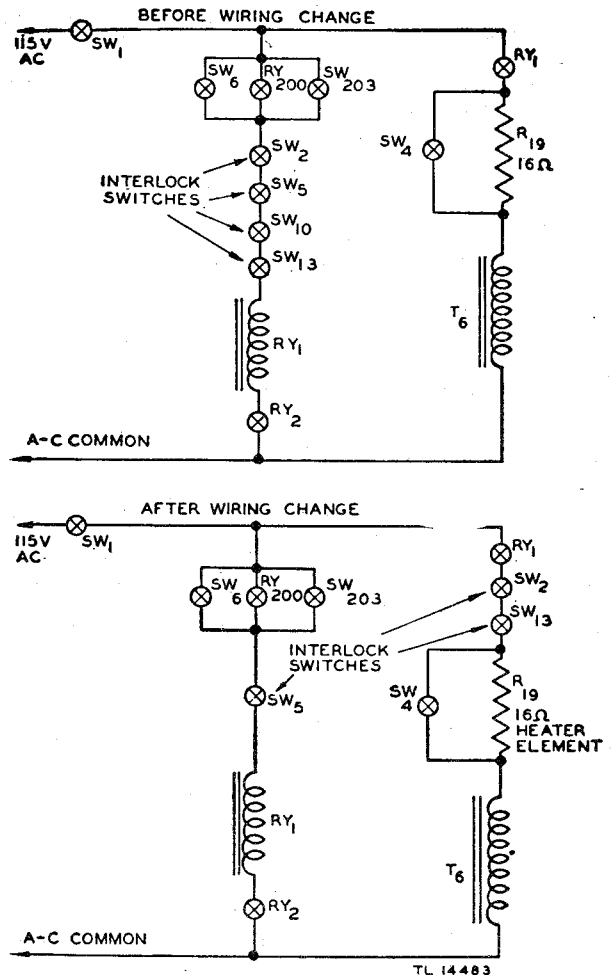

Figure 73. Interlock switches—functional diagram.
i. INTERLOCK SWITCHES SW2, SW5, SW10, and SW13 (fig. 73). Interlock switches are provided wherever opening a door or removing a cover of the transmitter exposes the operator to dangerously